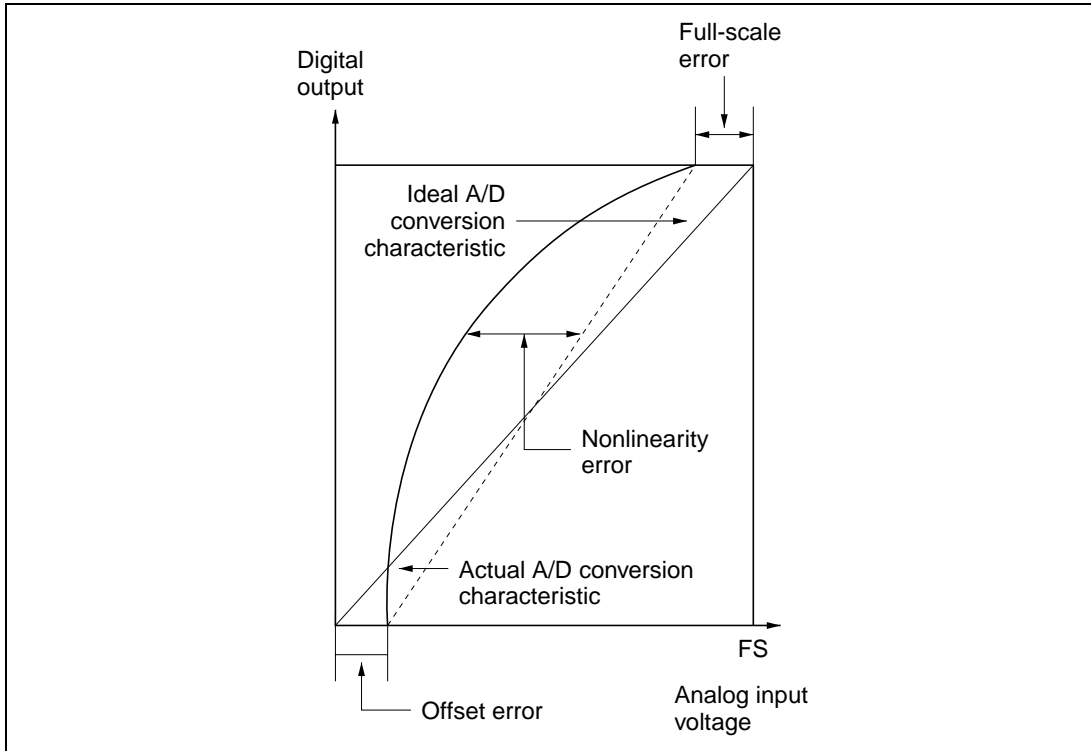

Figure 15.10 A/D Converter Accuracy Definitions (2)
- Offset error:.....Deviation from ideal A/D conversion characteristic of analog input voltage required to raise digital output from minimum voltage value 0000000000 to 0000000001 (figure 15.10)
- Full-scale error:Deviation from ideal A/D conversion characteristic of analog input voltage required to raise digital output from 1111111110 to 1111111111 (figure 15.10)